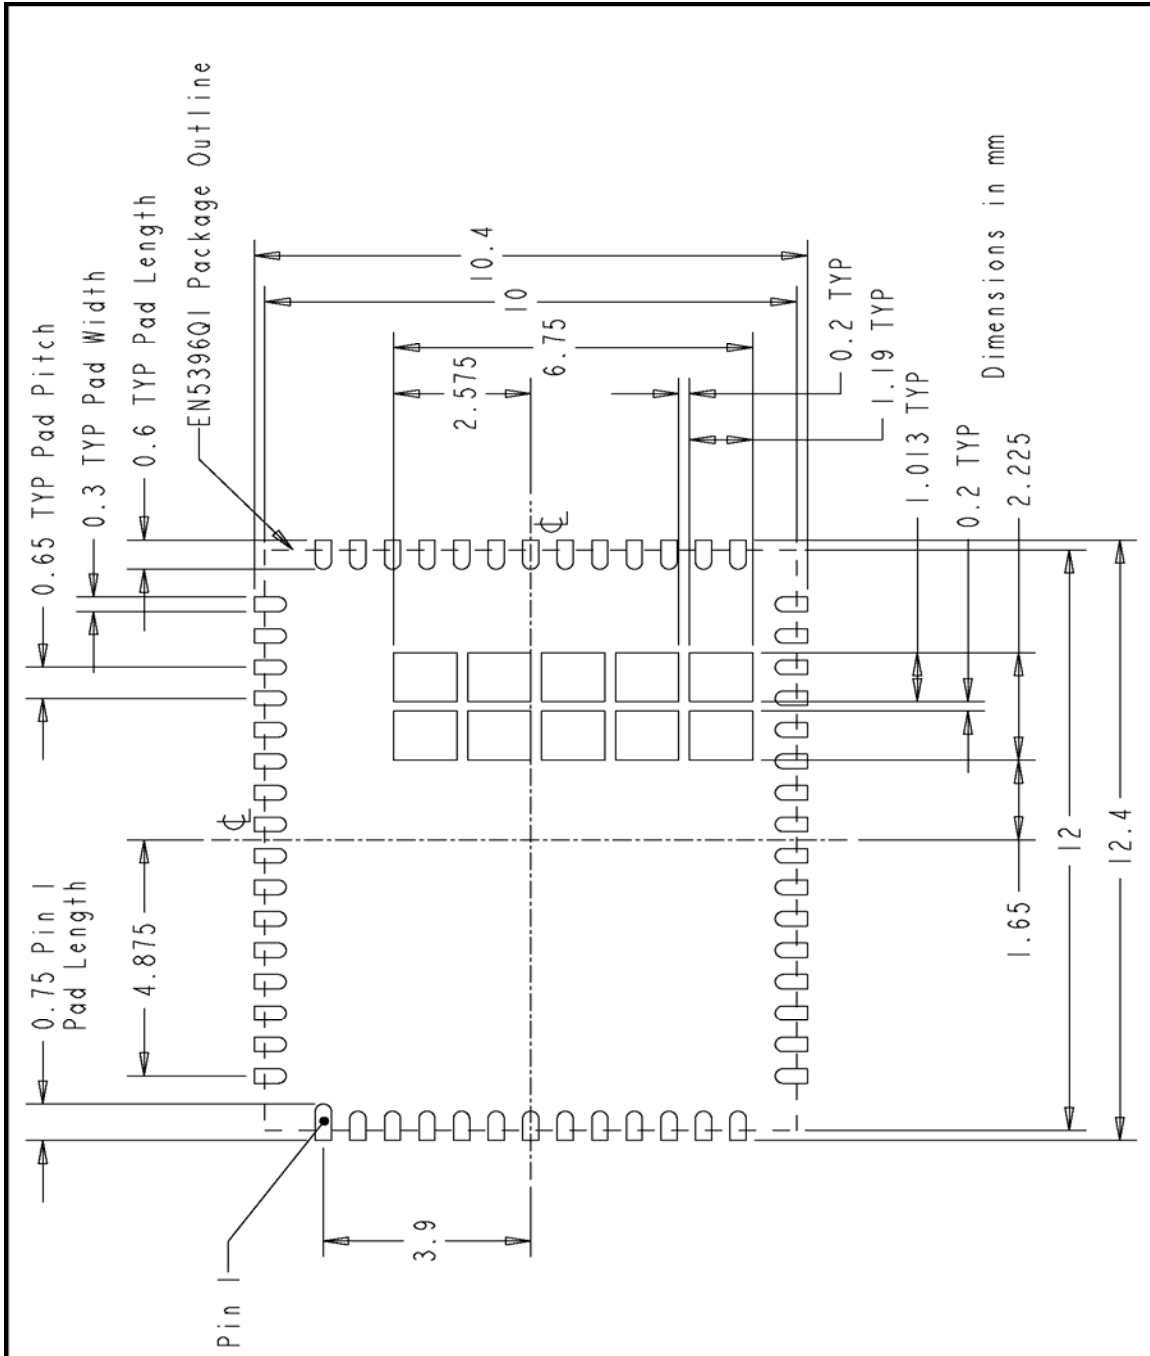

Figure 5 Solder stencil aperture layout for the EN5396Q1 QFN package
Figure 5 shows the solder stencil aperture layout for the EN5396QI QFN package.
- If open through-hole plated vias are used in the PCB GND pad then the stencil aperture opening should have a size ratio of 0.95:1. Note: the quantity and diameter of the vias will determine the amount of solder that will flow into the vias during reflow reducing the solder volume between the EN5396QI GND pad and the PCB GND pad. The solder stencil aperture layout should use one large aperture opening for the GND pad with dimensions as shown in Figure 5.
- If plugged and capped through-hole vias are used in the PCB GND pad then the stencil aperture opening should have a size ratio near 0.50:1. Note: less solder paste will be required since the vias will not fill with solder during reflow. The solder stencil aperture layout should use ten small aperture openings (known as a window pane solder stencil aperture) for the GND pad with dimensions as shown in Figure 5.